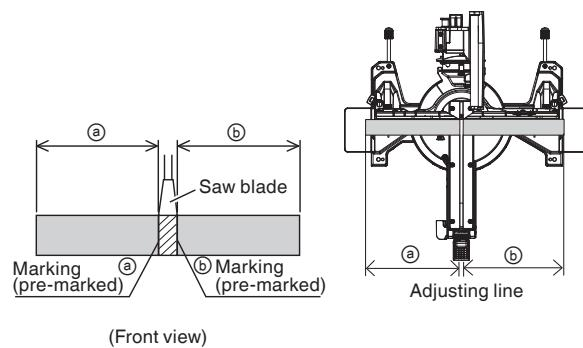

Fig. 26
- (1) As shown in Fig. 26 the width of the saw blade is the width of the cut. Therefore, slide the workpiece to the right (viewed from the operator's position) when length ② is desired, or to the left when length ③ is desired.